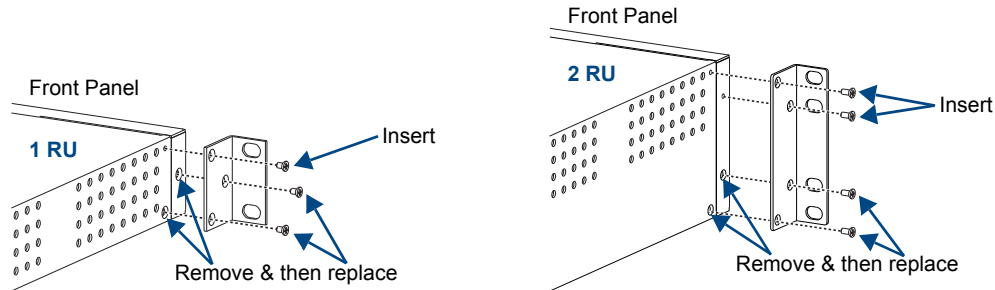

FIG. 3 Attach rack ears to sides of enclosure
1. On the side of the Precis DSP, remove the bottom two screws closest to the front panel (FIG. 3). Align the holes on one of the rack ears with the empty holes on the side of the enclosure and replace the screws (three screws for the 1 RU; four screws for the 2 RU). Repeat for the other rack ear.